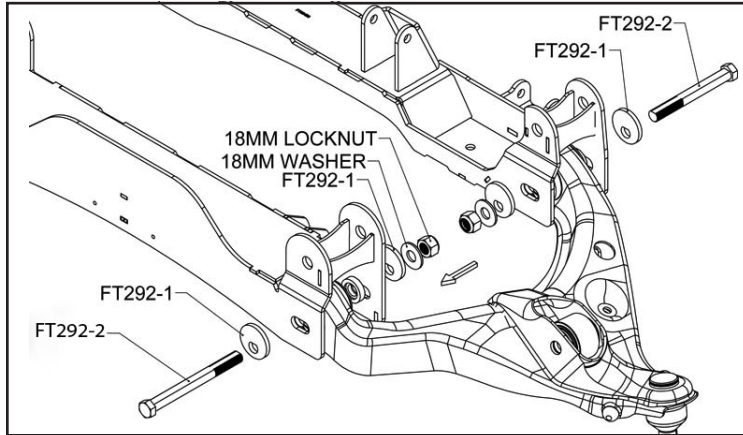

FIGURE 4 - STEP 13
13. Locate the factory lower control arms previously removed from the truck. Install into the new Fabtech crossmembers using the supplied FT292 alignment cams. Leave loose at this time. **SEE FIGURES 4**